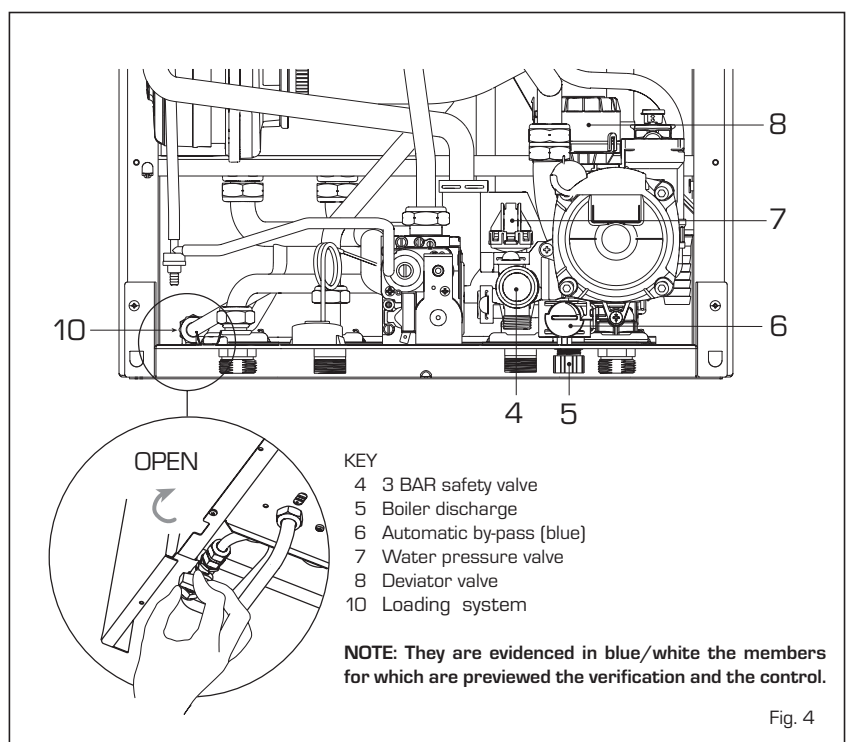

Fig. 4
2.5 SYSTEM FILLING (fig. 4)
Filling of the boiler and the system is done by the system filling (10 fig. 4).
2.5.1 Emptying the system (fig. 4)
Use the drain tap to empty the system (5 fig. 4). Turn off the boiler before doing this.